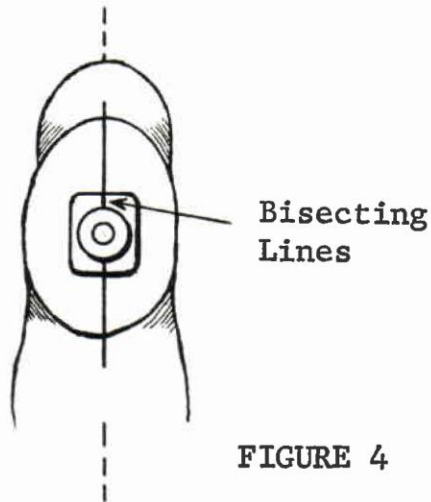

FIGURE 4
2. Attach the ankle plug to the SACH foot. The bisecting line scribed on the ankle plug during the modification procedure must coincide with the reference line of the foot. See *Figure 4*. Be sure that these lines coincide throughout the dynamic alignment procedure.